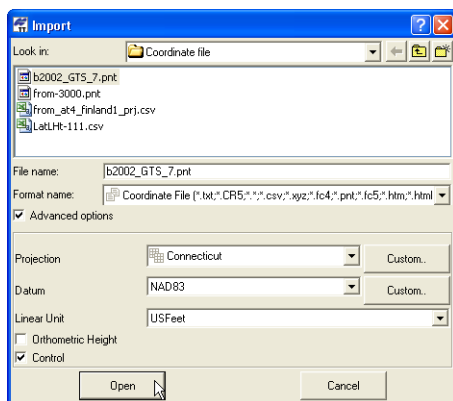

Figure 3-4. Import Coordinate Files
- Clicking the **Open** button on the **Import** window imports the file to the job. The data is displayed in the *Points* tab (Figure 3-4 on page 3-8).